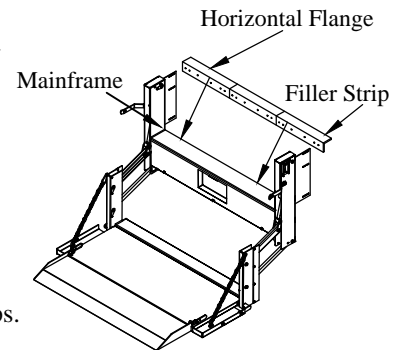

Figure 7: Filler strip location.
4. **Apply** the remaining vinyl tape the the under side of the filler strip (Figure 7).